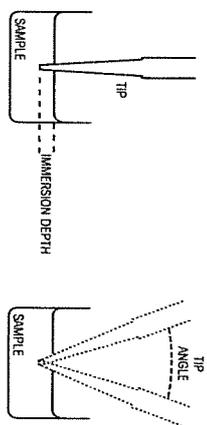

Figure 6: Tip Immersion Depth and Tip Angle
Tip immersion depth is critical and should not be exceeded, or the volume measured may be inaccurate, possibly out of specification. The tip angle is also important — the pipette should always be used in a position within 20 degrees of vertical. See Figure 6 below.
4. Consistent immersion depth. See Figure 6.